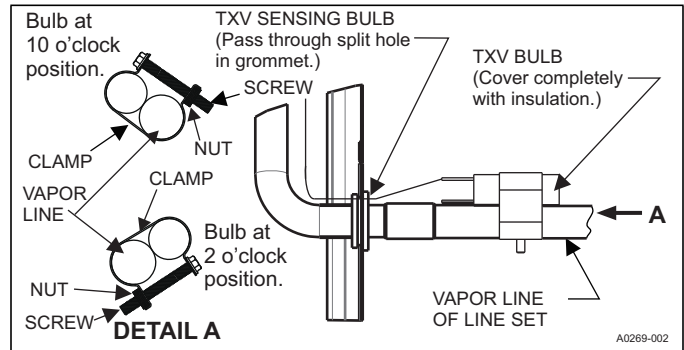

FIGURE 7: Proper Bulb Location
- a. If possible, install the temperature bulb on a horizontal run of the vapor line. Ensure that the bulb is installed at a 10 o'clock or 2 o'clock position. See Figure 7.